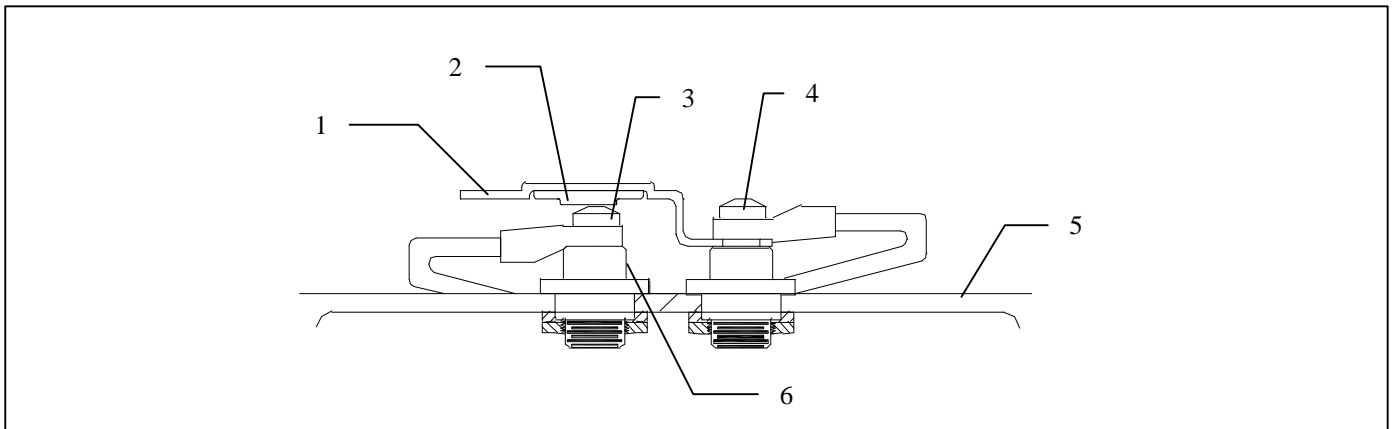

Figure 14. Replacing Film Disc Cutout
1. See Figure 14. Lift the cutout clip (1), located on the top of the wire terminal lug in the base of the inner cover assembly, and remove the old film disc cutout.